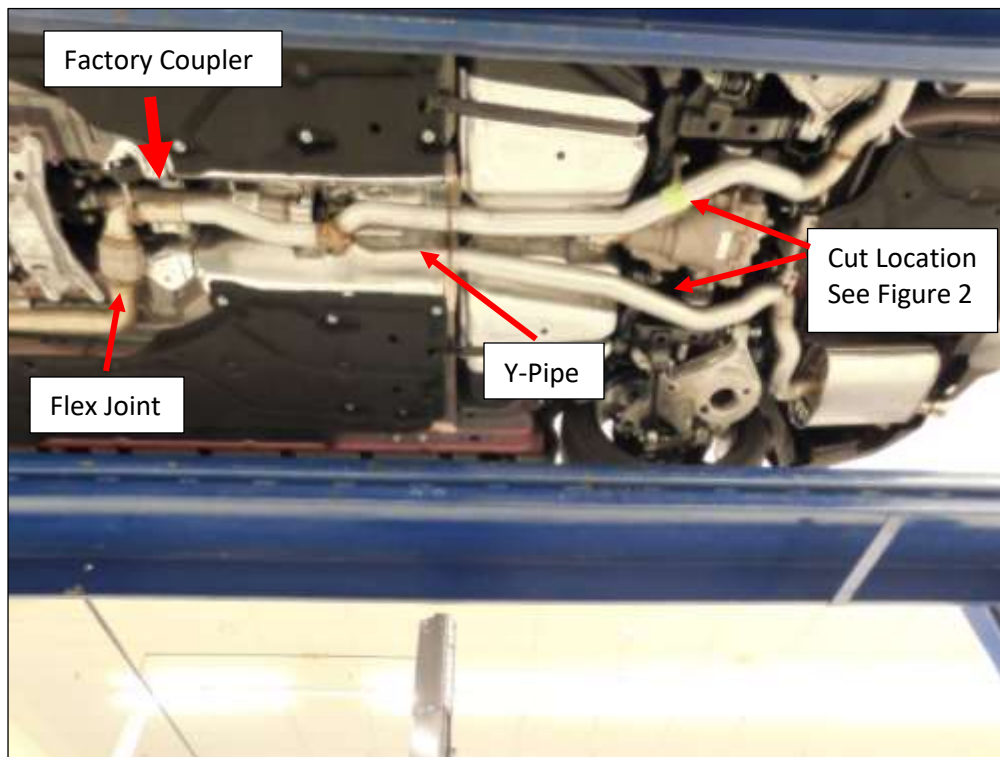

Figure 1
3. Loosen the 15mm nuts on the coupler at the flex joint and the factory Y-pipe inlet. **Fig. 1**